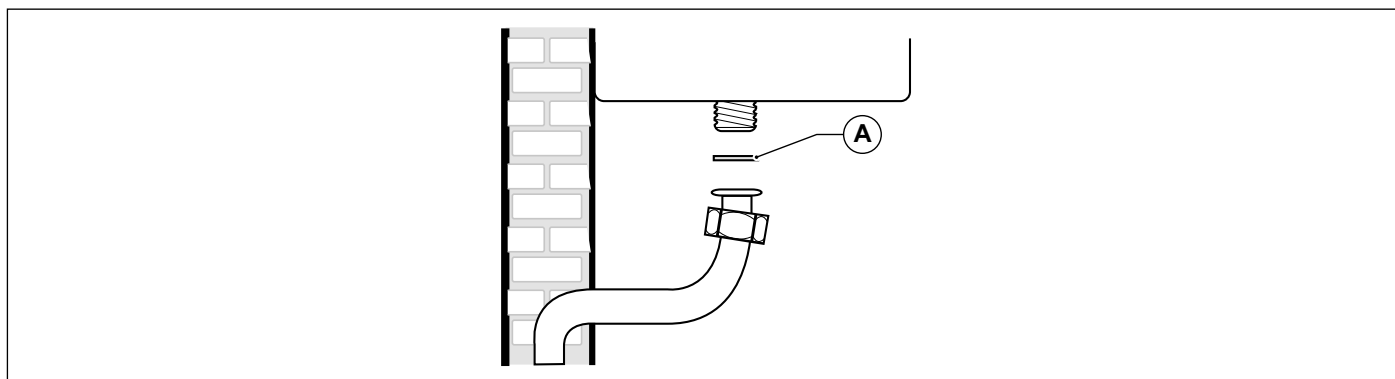

Fig. 13 Connection to gas mains
When connecting the boiler to gas supply network, it is COMPULSORY to install an appropriately sized gasket (A) made from suitable material (see Fig. 13 Connection to gas mains).